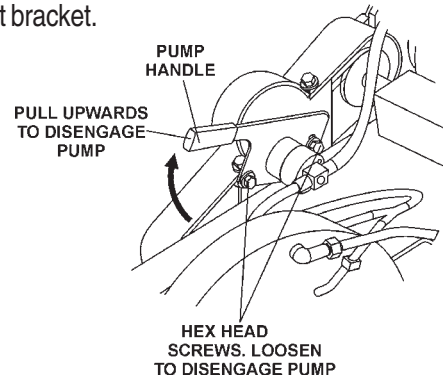

Figure 15. Pump Disengage
1. Loosen the 2 hex head cap screws (Figure 15) that secure the pump mount bracket.